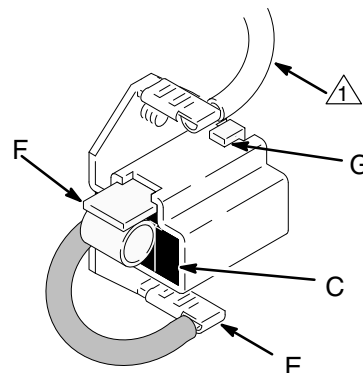

Fig. 18 03881
7. Holding the spring clip (F) at a slight angle, slide the spring clip into the brush holder and hook it over the end of the holder. See Fig. 18. Pull on the spring clip to be sure it stays in place. Connect the brush lead to the blade connector (E).